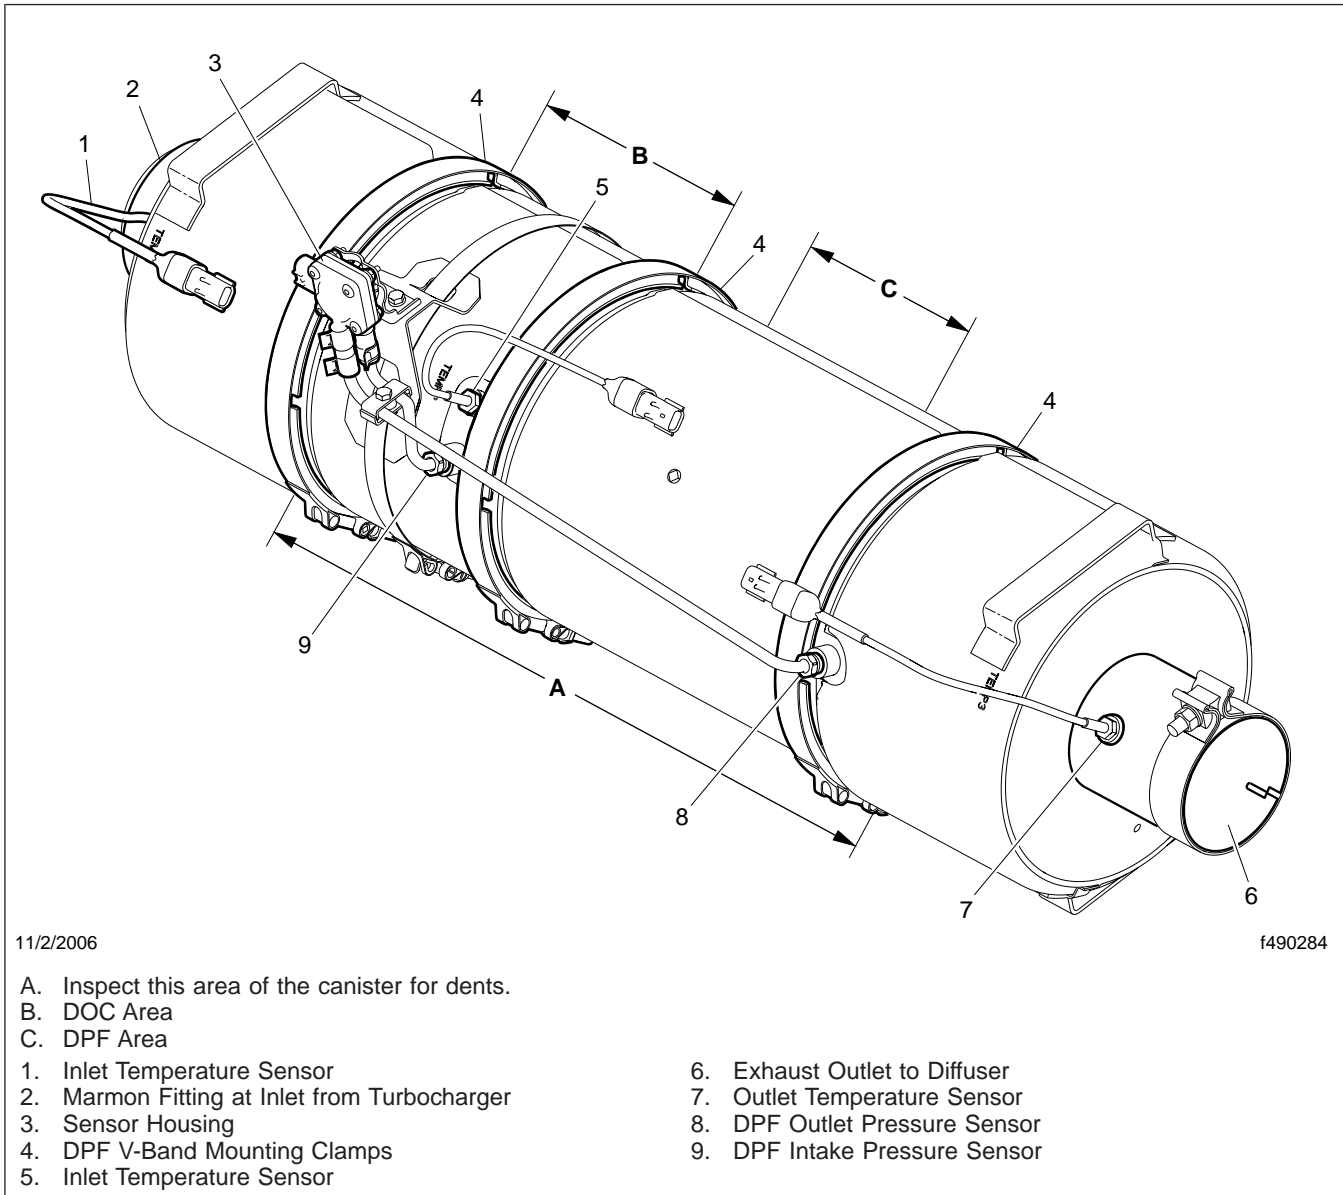

Fig. 1, Cummins Aftertreatment Device
7. Check the DPF exterior surface for dents or other damage. See **Fig. 1**, Item A. A dent over 3 inches (76 mm) in diameter and 1/4-inch (6-mm) deep could cause internal damage to the DPF, causing it to malfunction.